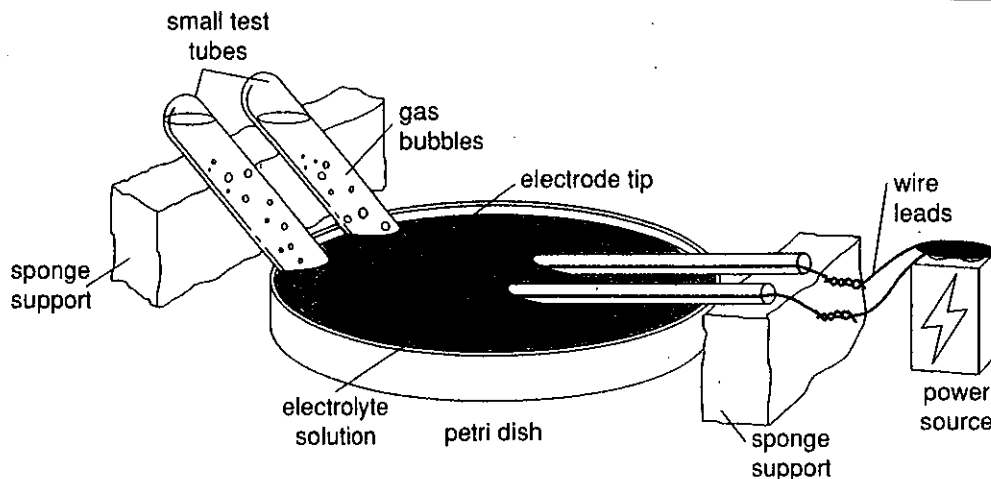

Figure 61-1
3. Place a microscope-slide cover slip over the mouth of one of the test tubes to trap the solution. Invert the test tube in the dish of electrolyte solution. Incline the filled test tube with its mouth still submerged in the dish of electrolyte solution. Rest the test tube on a notch in a block of moistened sponge placed outside the dish, as shown in Figure 61-1. Repeat the process for the second test tube.